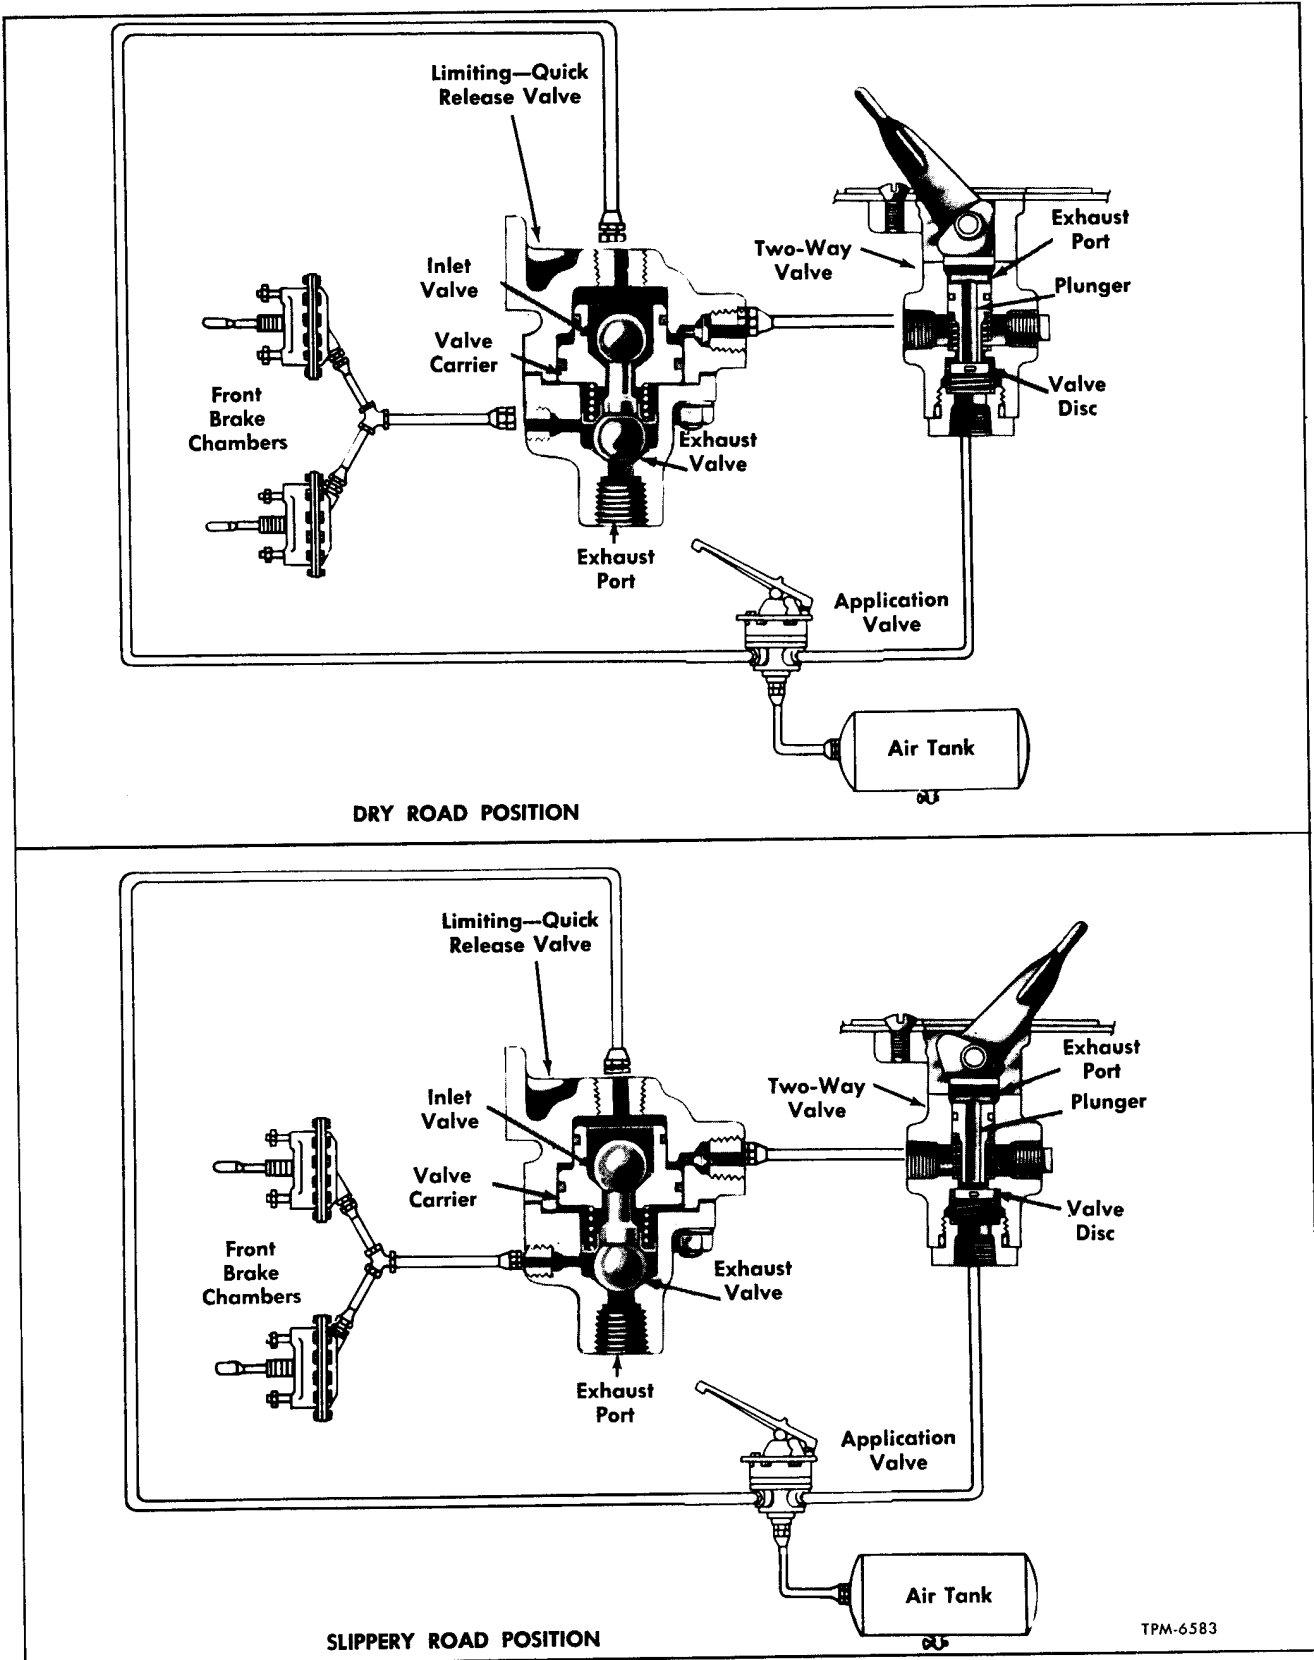
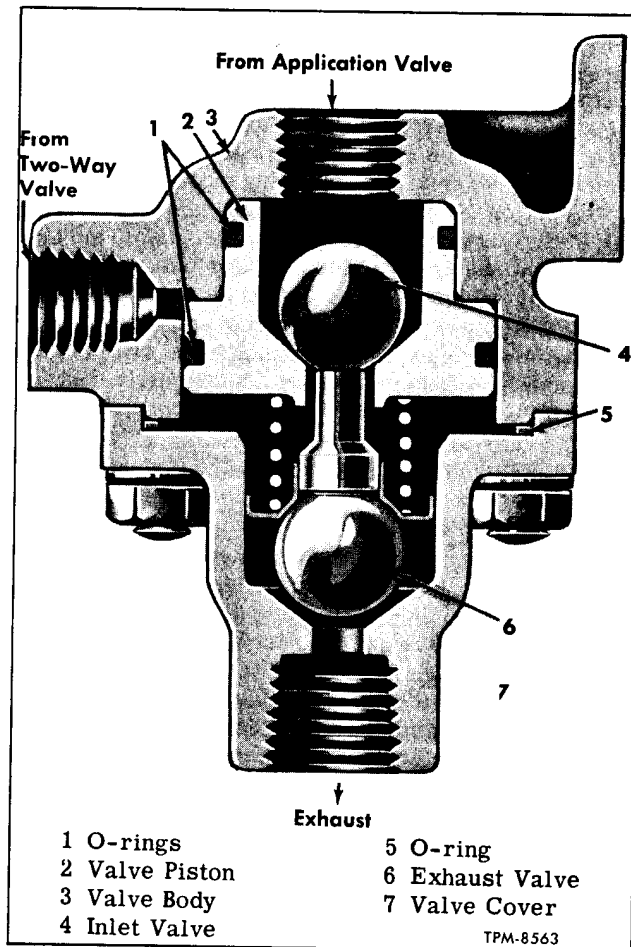
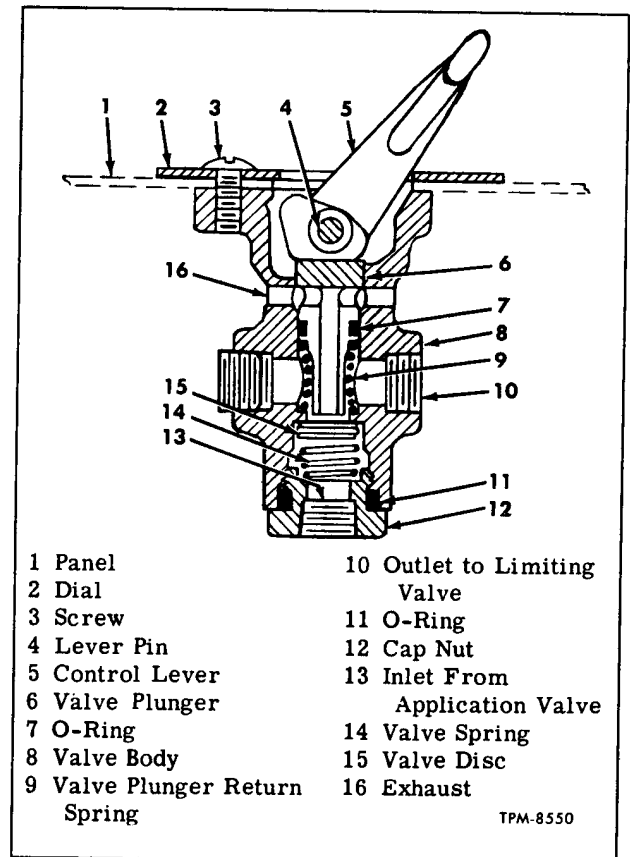

Figure 13—Front Brake Limiting and Two-Way Control Valve Operation
Figure 14—Front Brake Limiting and Quick Release Valve
Figure 15—Two-Way Control Valve (Also I.C.C. Valve)
A combination front brake limiting and quick-release valve (fig. 14) and a two-way control valve (fig. 15), are used in combination on some vehicles as shown in figure 13. This combination delivers full air pressure to front brakes when on dry roads, or at option of the driver, limits front brake air pressure by half when on slippery roads.
release valve is mounted beneath coach floor near front axle. One air line from brake application valve is connected to inlet port of the two-way valve and another line connects to the brake valve port at top of limiting quick release valve (fig. 13). Another air line connects side delivery port of the control valve to port opposite the mounting pad of the limiting valve. The two other side ports of the limiting valve are connected to front brake chambers.
1. Dry Roads (Top View, Fig. 13)
2. Slippery Roads (Bottom View, Fig. 13)
LIMITING AND QUICK RELEASE VALVE OVERHAUL (Fig. 14)**Disassembly**
TWO-WAY CONTROL VALVE OVERHAUL (Fig. 15)**Disassembly**
The I.C.C. valve and the two-way control valve shown in figure 15 are identical except for wording on dials. The following key numbers refer to figure